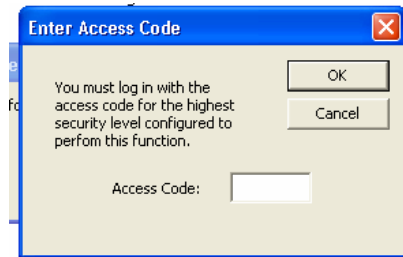

Figure 4
5. Now enter the access code. This code will be the highest level of security that has been set on the AccuLoad III.net. If no security is used on the AccuLoad, then simply click OK (clicking cancel will abort the upgrade firmware procedure). The window used to enter the access code is shown in Figure 4.